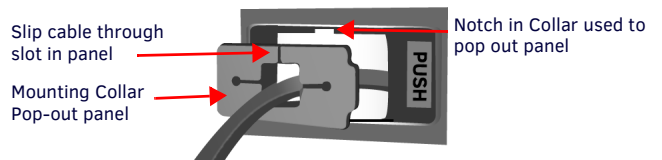

FIG. 10 RCM MOUNTING COLLAR POP-OUT PANEL
- From the top of the mounting collar, press a small flat blade screwdriver into the notch on the split side of the pop out panel and pop it out of place (FIG. 10)..